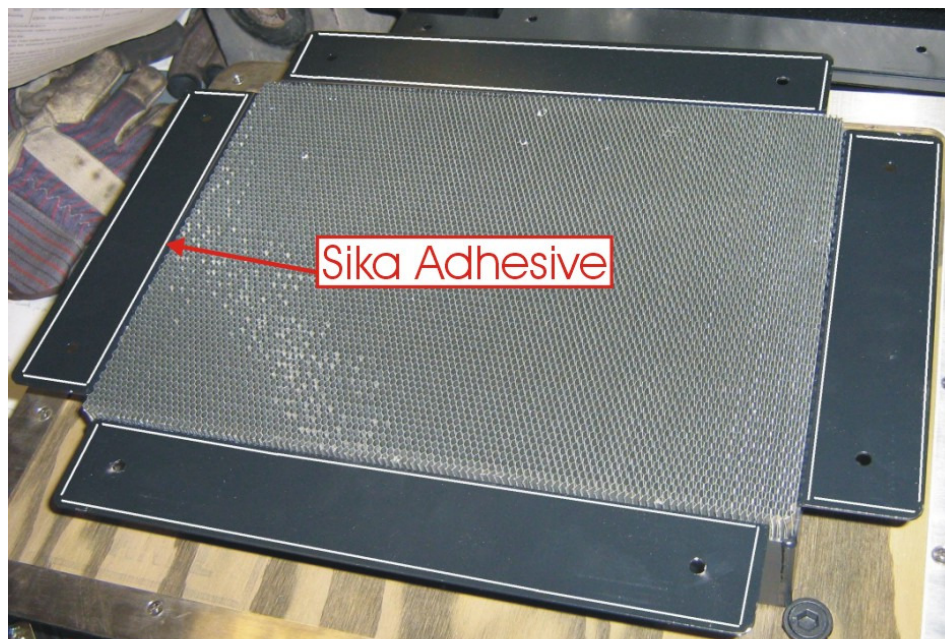

Figure 3: Sika application.
8. Remove honeycomb assembly and apply a bead of Sika Adhesive (PN 056379) on the perimeter of the flanges on the aluminum enclosure. See Figure 3.